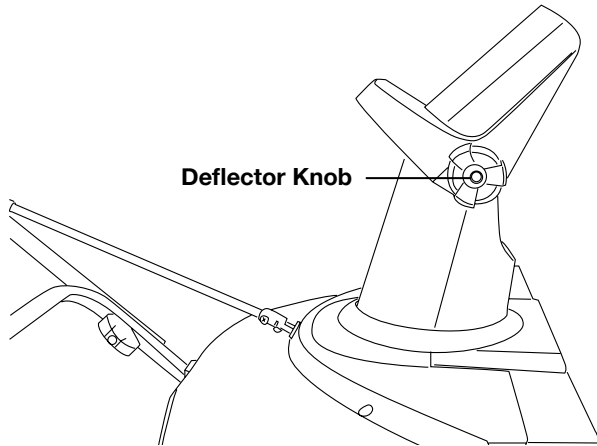

Figure 20
2. The chute deflector on the top of the discharge chute controls the height of the snow stream. Loosen the knob to raise or lower the deflector to the desired height of snow you wish to throw. Tighten the knob to secure the deflector (Fig. 20).
- Do not overtighten the knobs on the chute deflector (Fig. 20).